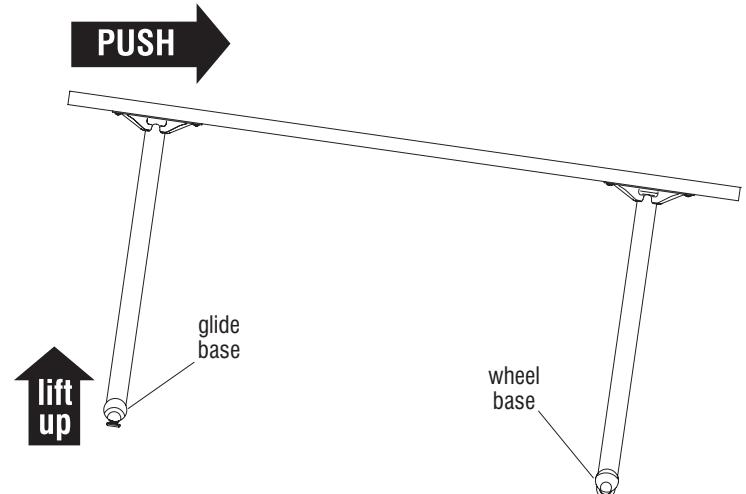

Figure 2
1. To move tables, lift slightly on glide side of the table and push table to desired location. Carefully set table back down on glides (Figure 2).